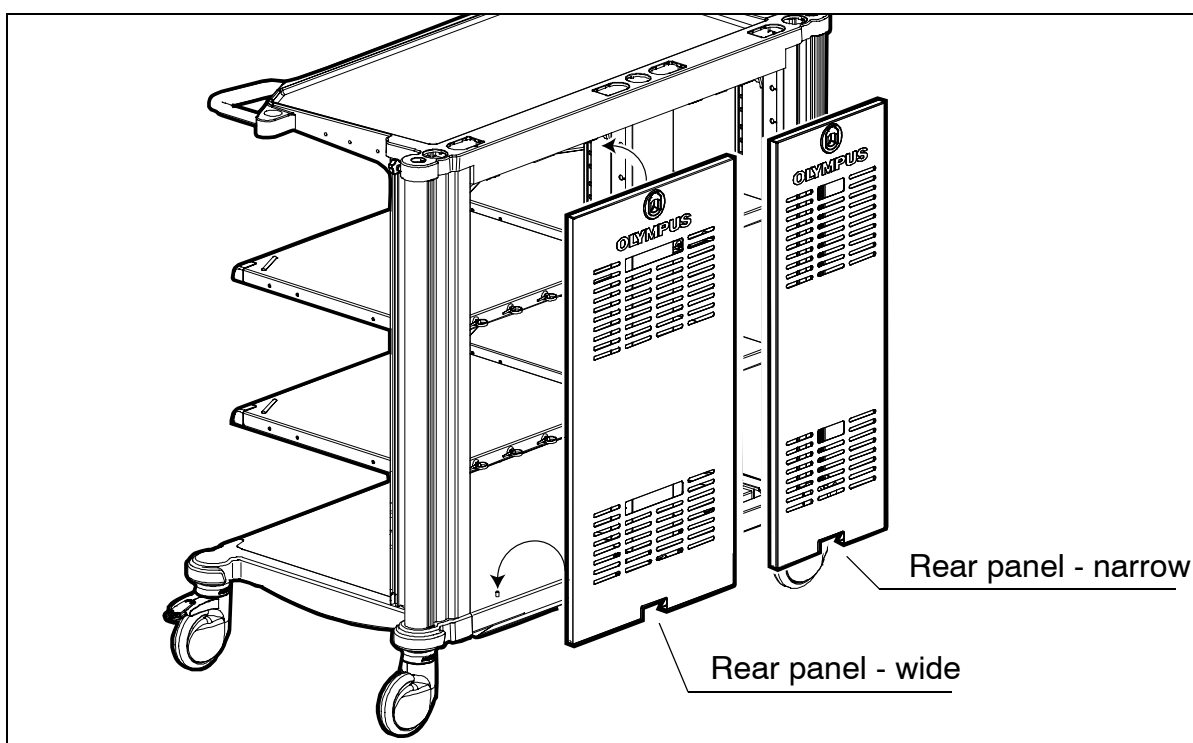

**Figure 4.7**
1. When installation of equipment is complete, lift each rear panel in turn onto the locating studs on the base of the workstation (Figure 4.7) then push the top of the panel until the latch engages with an audible click.